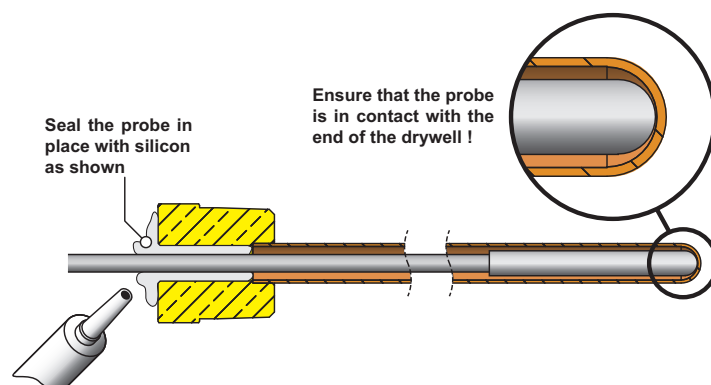

Figure 7 - Apply Silicon around Drywell
- Insert temperature sensor in thermowell located in the "Tee" piece of the potable hot water outlet. Ensure the sensor is inserted all the way to the end of the thermowell then fix in place by applying silicone in and around the thermowell. (Refer Figure 7).